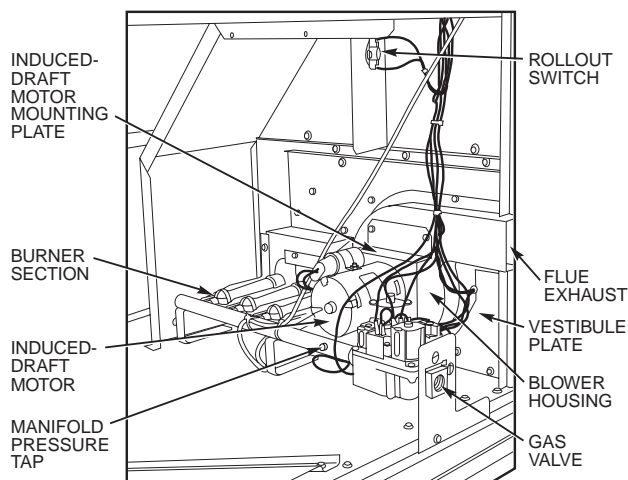

Fig. 50 — Burner Section Details
2. Remove the 7 screws that attach induced-draft motor housing to vestibule plate (Fig. 50).
7. Remove the 2 screws that attach the burner rack to the vestibule plate (Fig. 50).